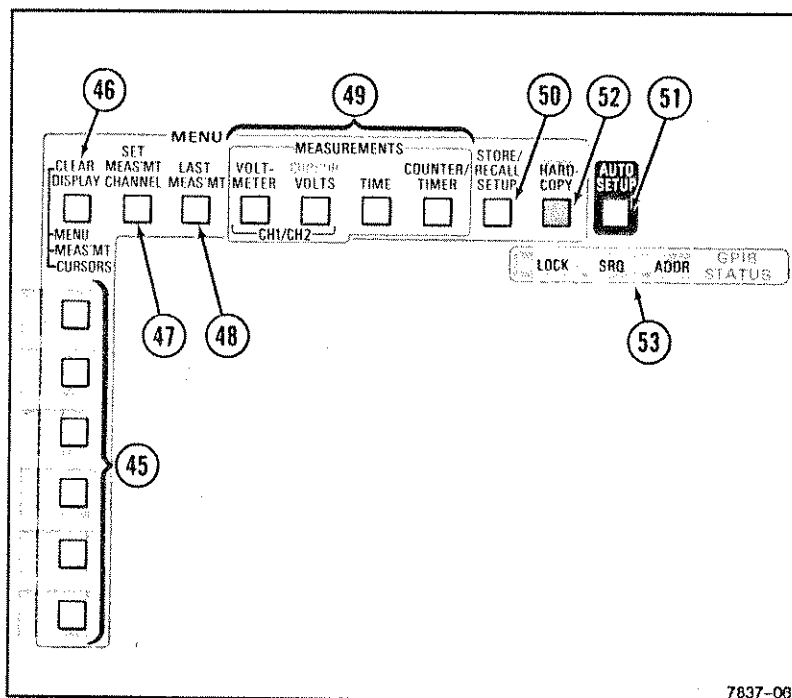

Figure 2-7. Menu controls.
Refer to Figure 2-7 for location of items 45 through 51.
- ④⑤ **Menu Item Select Buttons**— Select items from the list displayed on the right side of a displayed menu. A Menu Item Select button that has no corresponding menu item does nothing when pressed. The menu display will clear when the item is selected (unless the SERVICE mode CONFIGURE menu is set for: KEEP MENU ON WHEN ITEM SELECTED? YES). The factory settings default is NO.